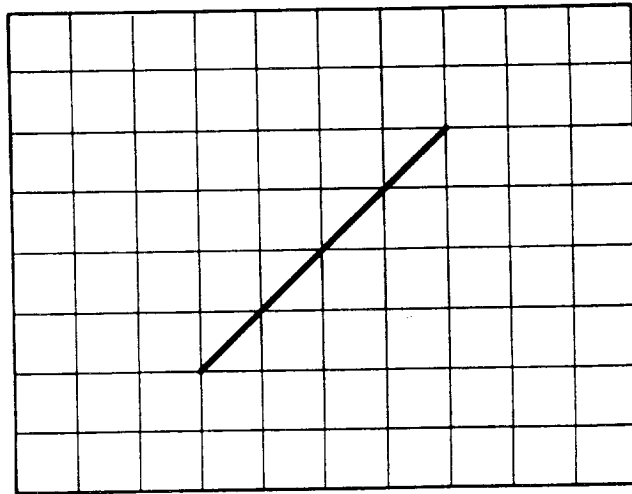

Figure24
- E. Adjust VR10C so that you obtain a trace with a 45° slope, and 4 divisions for horizontally positioned as shown in Figure 24, which passes exactly through the vertical and horizontal graticule line intersections.